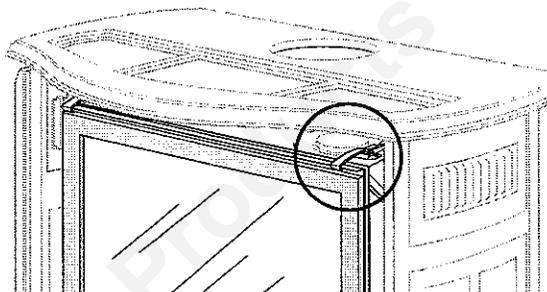

Fig. 33. Release the latches to release the glass and frame assembly from the stove
1. Remove the glass and frame assembly as a unit, by releasing the luggage-style latches at the top left and right corners of the glass frame. Fig. 33. Swing the top of the assembly away from the firebox, then lift it off its support brackets and set it down carefully on a flat, padded surface
5. Replace the glass and frame assembly on the stove. Set the bottom of the frame on the support brackets on the front of the firebox, swing the assembly upright, and fasten it with the two latches at the front corners of the firebox. Fig. 33.